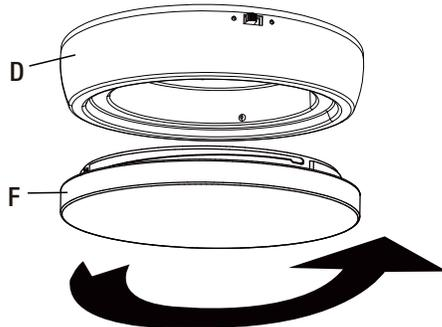

Figure 12
- Install the lamp shade (F) onto the light kit (D) by gently twisting and locking into position. (Figure 12)